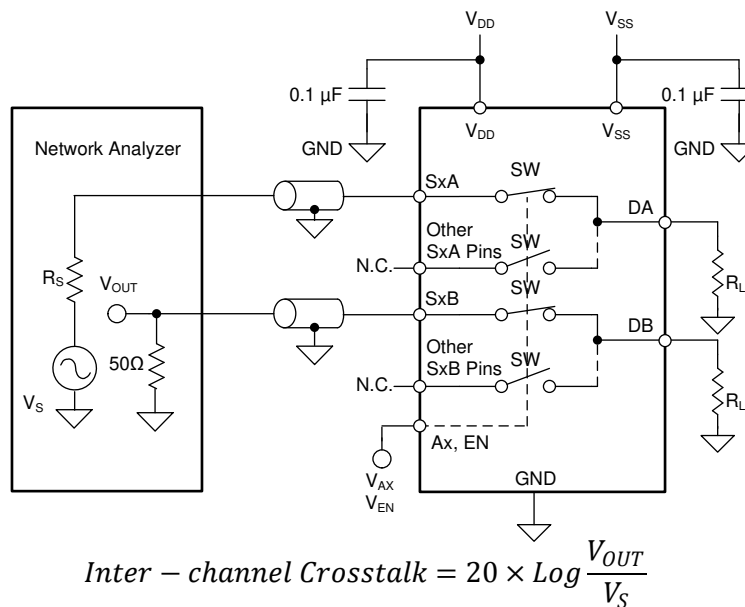

Figure 8-14. Inter-channel Crosstalk Measurement Setup
2. Inter-channel crosstalk ($X_{TALK(INTER)}$): the voltage at the source pin (Sx) of an on-switch input, when a 1- V_{RMS} signal is applied at the source pin of an on-switch input in a different channel, as shown in Figure 8-14. Inter-channel crosstalk applies only to the TMUX7309F device.